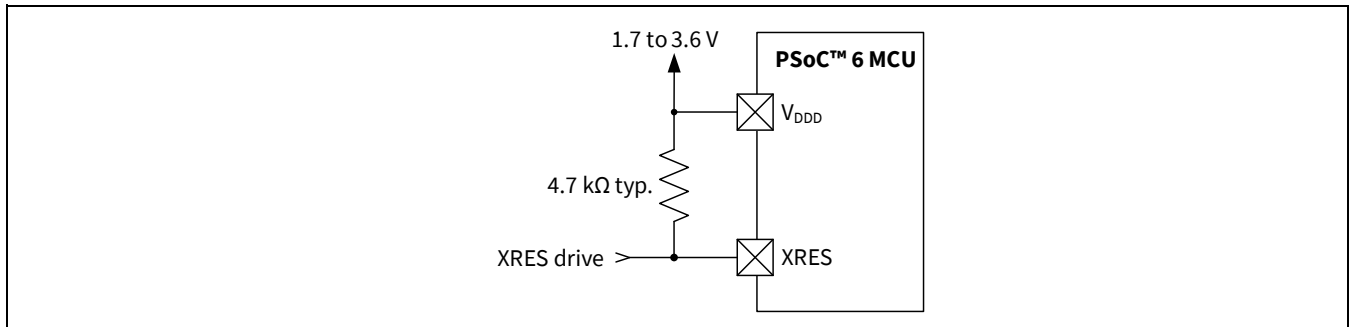

Figure 6 XRES connection diagram
- External reset dedicated pin (XRES) to reset the device using an external source. The XRES pin is active low. It can be connected either to a pull-up resistor to V_{DDD}, or to an active drive circuit, as **Figure 6** shows. If a pull-up resistor is used, select its value to minimize current draw when the pin is pulled low; 4.7 kΩ to 100 kΩ is typical.